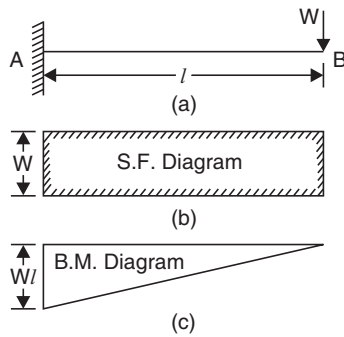

FIGURE 8.10
(a) **A cantilever with a point load (W) at the free end.** A cantilever AB of length l , carrying a point load (W) at the free end B is shown in Fig. 8.10(a). The shear force and bending moment diagrams are shown in Figs. 8.10(b) and (c) respectively. The shear force diagram is a rectangle, whereas bending moment diagram is a triangle. The bending moment is zero at the free end and maximum at the fixed end A .